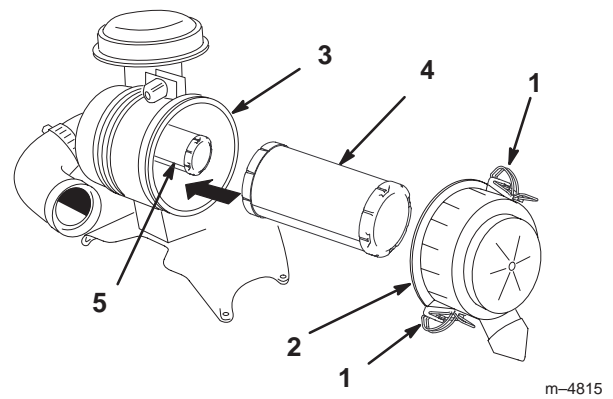

Figure 31
2. Release the latches on the air cleaner and pull the air cleaner cover off of the air cleaner body (Fig. 31).
4. Gently slide the primary filter out of the air cleaner body (Fig. 31). Avoid knocking the filter into the side of the body.
2. If the safety filter is being replaced, carefully slide it into the filter body (Fig. 31).
3. Carefully slide the primary filter over the safety filter (Fig. 31). Ensure that it is fully seated by pushing on the outer rim of the filter while installing it.
4. Install the air cleaner cover with the side indicated as **UP** facing up and secure the latches (Fig. 31).